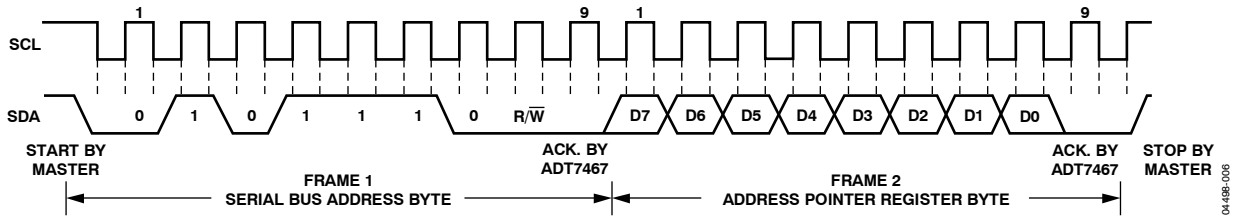
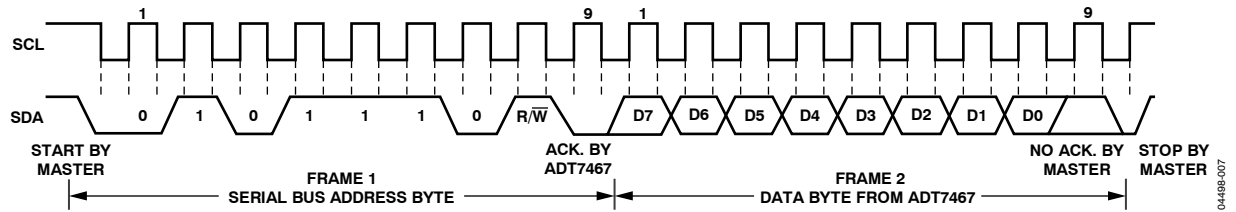

Figure 17. Writing to the Address Pointer Register Only
Figure 18. Reading Data from a Previously Selected Register
- If the address pointer register value of the ADT7467 is unknown or not the desired value, it must be set to the correct value before data can be read from the desired data register. This is achieved by writing a data byte containing the register address to the ADT7467. This is shown in Figure 17. A read operation is then performed consisting of the serial bus address and the R/\overline{W} bit set to 1, followed by the data byte read from the data register. This is shown in Figure 18.
- If the address pointer register is known to be at the desired address, data can be read from the corresponding data register without first writing to the address pointer register, as shown in Figure 18.